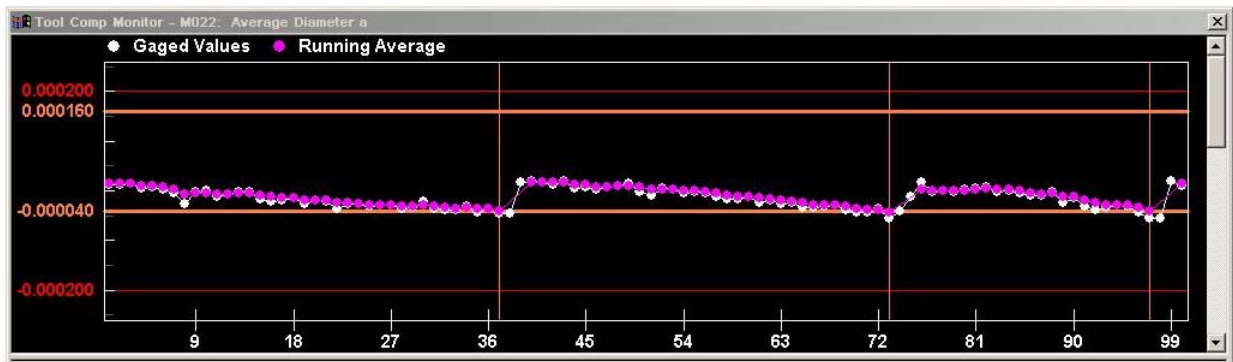

Figure VI-7
3. The parameters should be set such that the stones on the honing tool are allowed to wear normally without any need to make additional positive bore comps and at the same time not too high so we do not have to make any negative bore comps. The actual graph shown on the 'Tool Comp Monitor' screen should look "Saw Tooth" as shown in Figure VI-7 below.